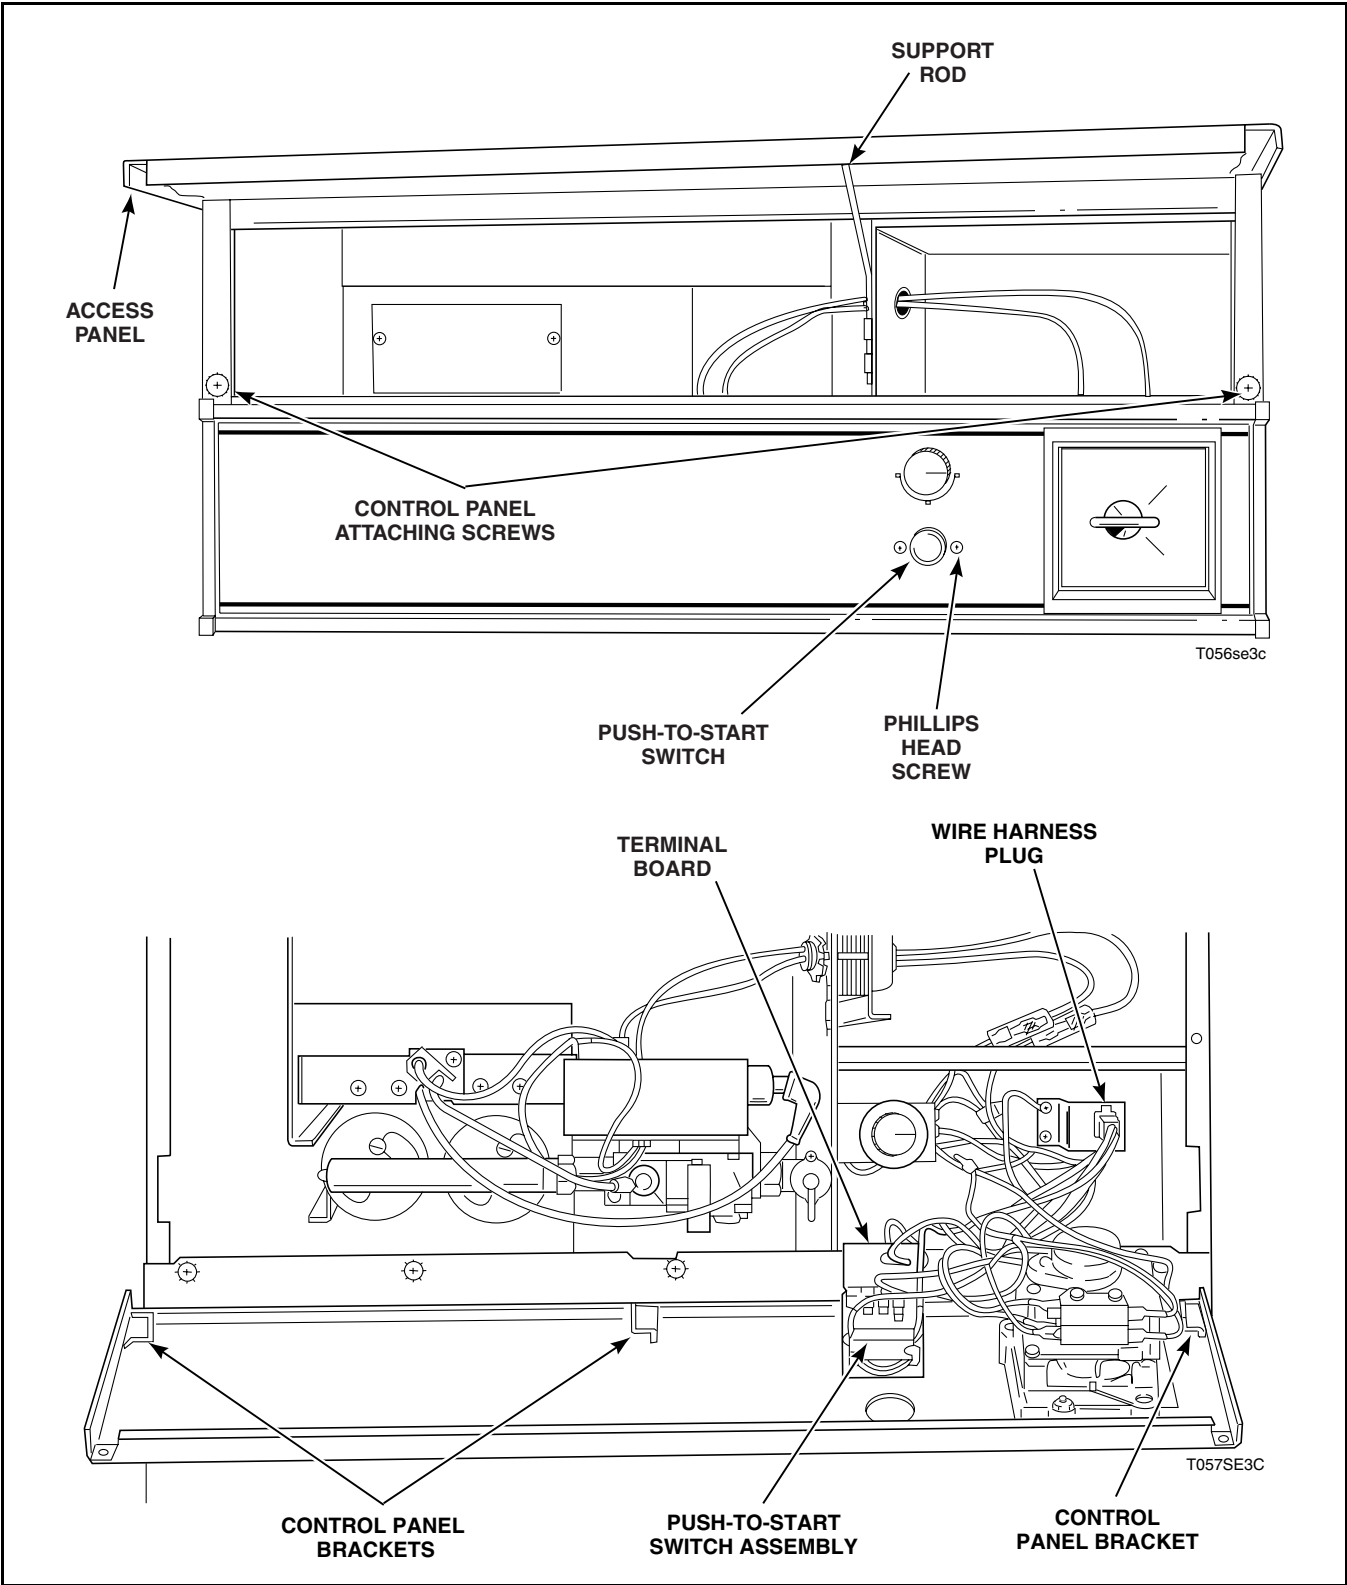

Figure 3
- a. Unlock and open access panel. To hold panel open, swing support rod under panel. Refer to *Figure 3*.
- (1) Remove two screws holding control panel to cabinet. Refer to *Figure 3*.
- (2) Lift control panel off top edge of front panel and pull panel forward just far enough to disconnect wire harness at the plug.
- b. Remove two screws holding switch and mounting bracket (if applicable) to control panel. Refer to *Figure 3*.